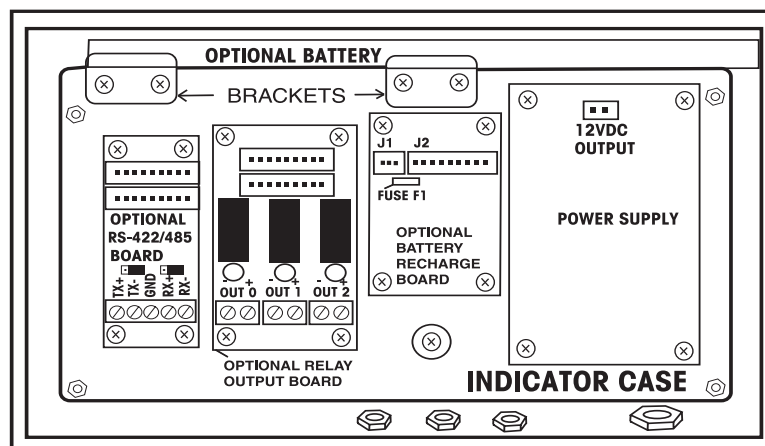

Figure 3-6. Battery and Recharge Board Location Diagram.
If the battery is new and has never been charged, a one time extended time trickle charge is started, (this one time initial charge is shown by 2 yellow LED's). Figure 3-6 illustrates the bar displays during various charging modes.
9. Using an Ohmmeter, check the fuse F1, (refer to Figure 3-6) on the Recharge board to see if it is open. If the fuse is open, remove the Recharge board and replace the fuse. Re-install the recharge board in the housing.
2. Open the Front Housing, refer to procedure 4.1. Locate the Recharge Board as shown in Figure 3-6.